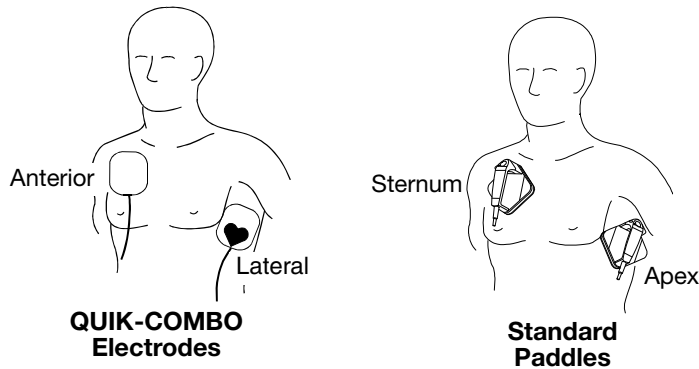

Figure 3-1 Anterior-lateral Placement
- 1 Place either the ♥ or + therapy electrode or the apex paddle lateral to the patient's left nipple in the midaxillary line, with the center of the electrode in the midaxillary line, if possible. Refer to Figure 3-1.
- 2 Place the other therapy electrode or sternum paddle on the patient's upper right torso, lateral to the sternum and below the clavicle as shown in Figure 3-1.